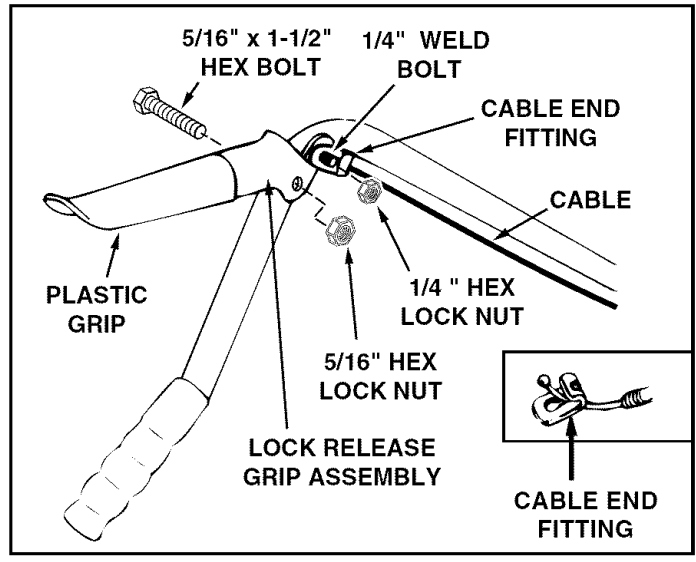

FIGURE 17 (Right Hand Side View)
- Assemble the plastic grip onto the lock release grip assembly. See figure 17.
- Attach the lock release grip assembly to the lift handle tube using one 5/16" x 1-1/2" hex bolt and one 5/16" hex lock nut. **Do not overtighten** the nylon lock nut. The grip assembly must pivot freely. See figure 17.
- Assemble the ball end of the cable to a cable end fitting as was done to the other end of the cable. Secure the cable end fitting to the weld bolt on the lock release grip with a 1/4" hex lock nut. **Do not overtighten** the nylon lock nut. The cable fitting must pivot freely. See figure 17.